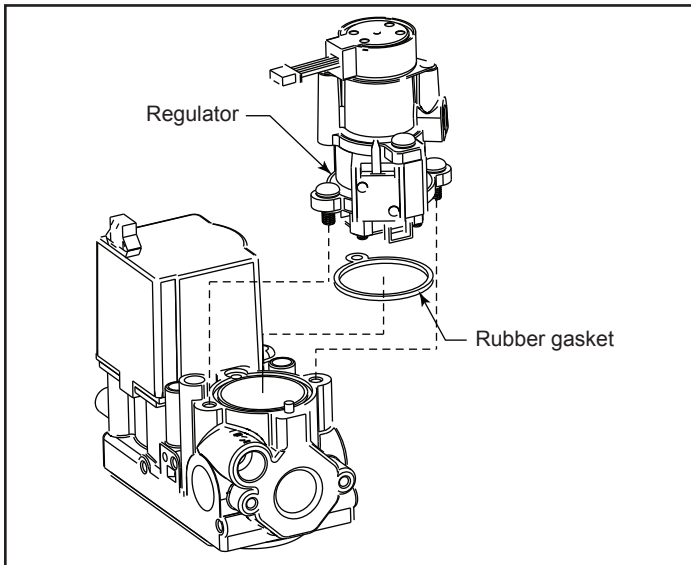

Figure 7.14 - Valve Regulator
- Using Torx T20 driver or slotted screwdriver, remove and discard the regulator and rubber gasket in the face of the valve. Figure 7.14.
- Install the new regulator with rubber gasket from the conversion kit. Make sure the gasket is seated properly. Figure 7.14.